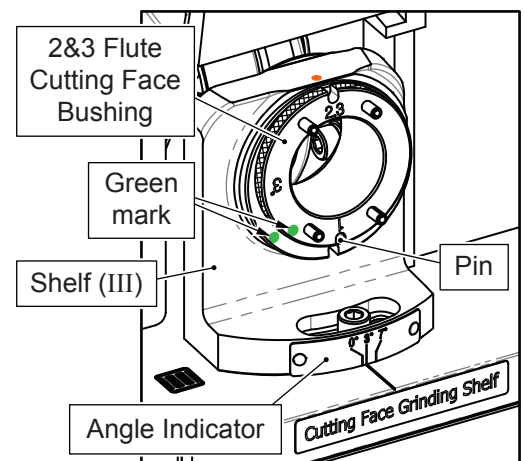

Fig. 5-10
2) Cutting Face Grinding Shelf (III) (Fig. 5-10)
- ① Adjust the Shelf (III) to 3° .
- ② Insert 2&3 Flute Cutting Face Bushing into the Shelf (III), align No.1 of the bushing to the pin on the shelf, then insert it to the end.